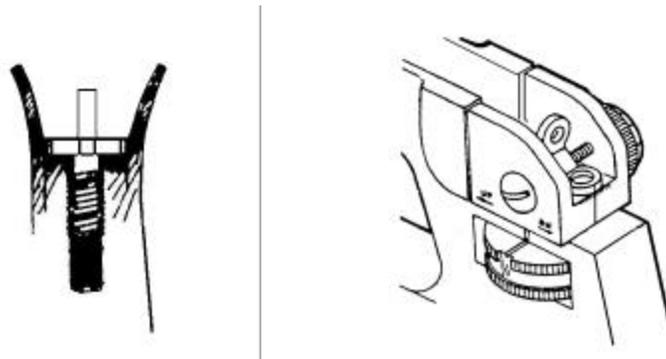

Figure 1
2. Set the rifle to a **modified mechanical zero**. The rear sight should be centered with the normal (800-300 meter) rear sight aperture in the up position. The elevation knob on the M16A2 will be set one click passed the 8/3 (300 meter) mark. The front sight post should be brought flush with the front sight housing (see figure 1), then turned clockwise 11 clicks. Once the **modified mechanical zero** has been set, the shooter can set **his/her battle zero** to the rifle. A shooter's battle zero is the normal sight setting for the rifle in the field and is also the initial setting used for firing at the 25-yard line from the offhand, kneeling supported, and prone positions in the CRC.